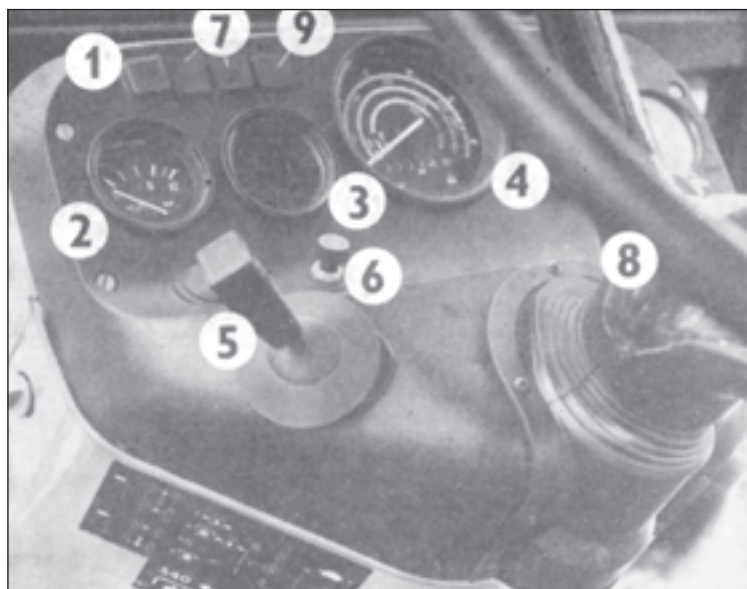
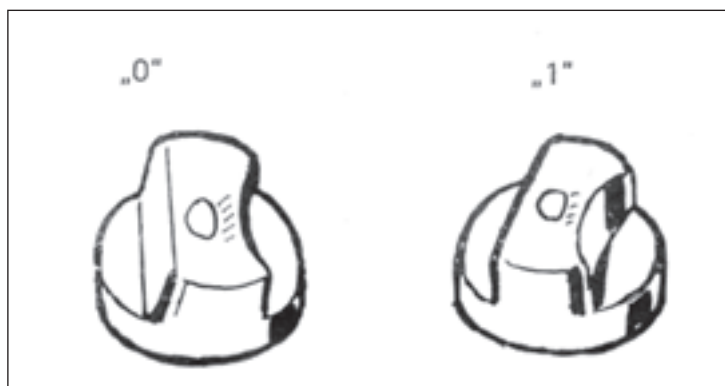

Fig. 4
Fig. 9
### **Dashboard (Fig. 4, 5, 6, 7)**
Switch positions (Fig. 9) of dipped lights of the asymmetric headlights in the radiator grill of the tractor or in the cabin roof
Position „2“ --- All devices mentioned under the position „1“ are switched on and additionally the dipped lights or the main beam lights according to the position of the switch for direction indicator lamps and the light switch (Fig. 4/5).
**Note:** In the position „2“ of the headlight switch and if the switch for direction indicator lamps (Fig. 4/5) is in its position for dipped lights, it is possible to switch on the dipped lights either in the radiator grill or in the cabin roof, according to the position of the switch for dipped lights (Fig. 9). However, the main beam lights may be switched on only in the radiator grill of the tractor, regardless of the position of the switch for dipped lights (Fig. 9).